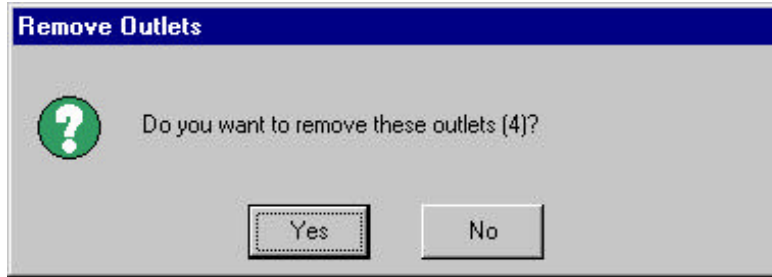

Figure 5.40
5. A prompt box will appear, asking you to verify removal of the selected point(s). (Figure 5.40)